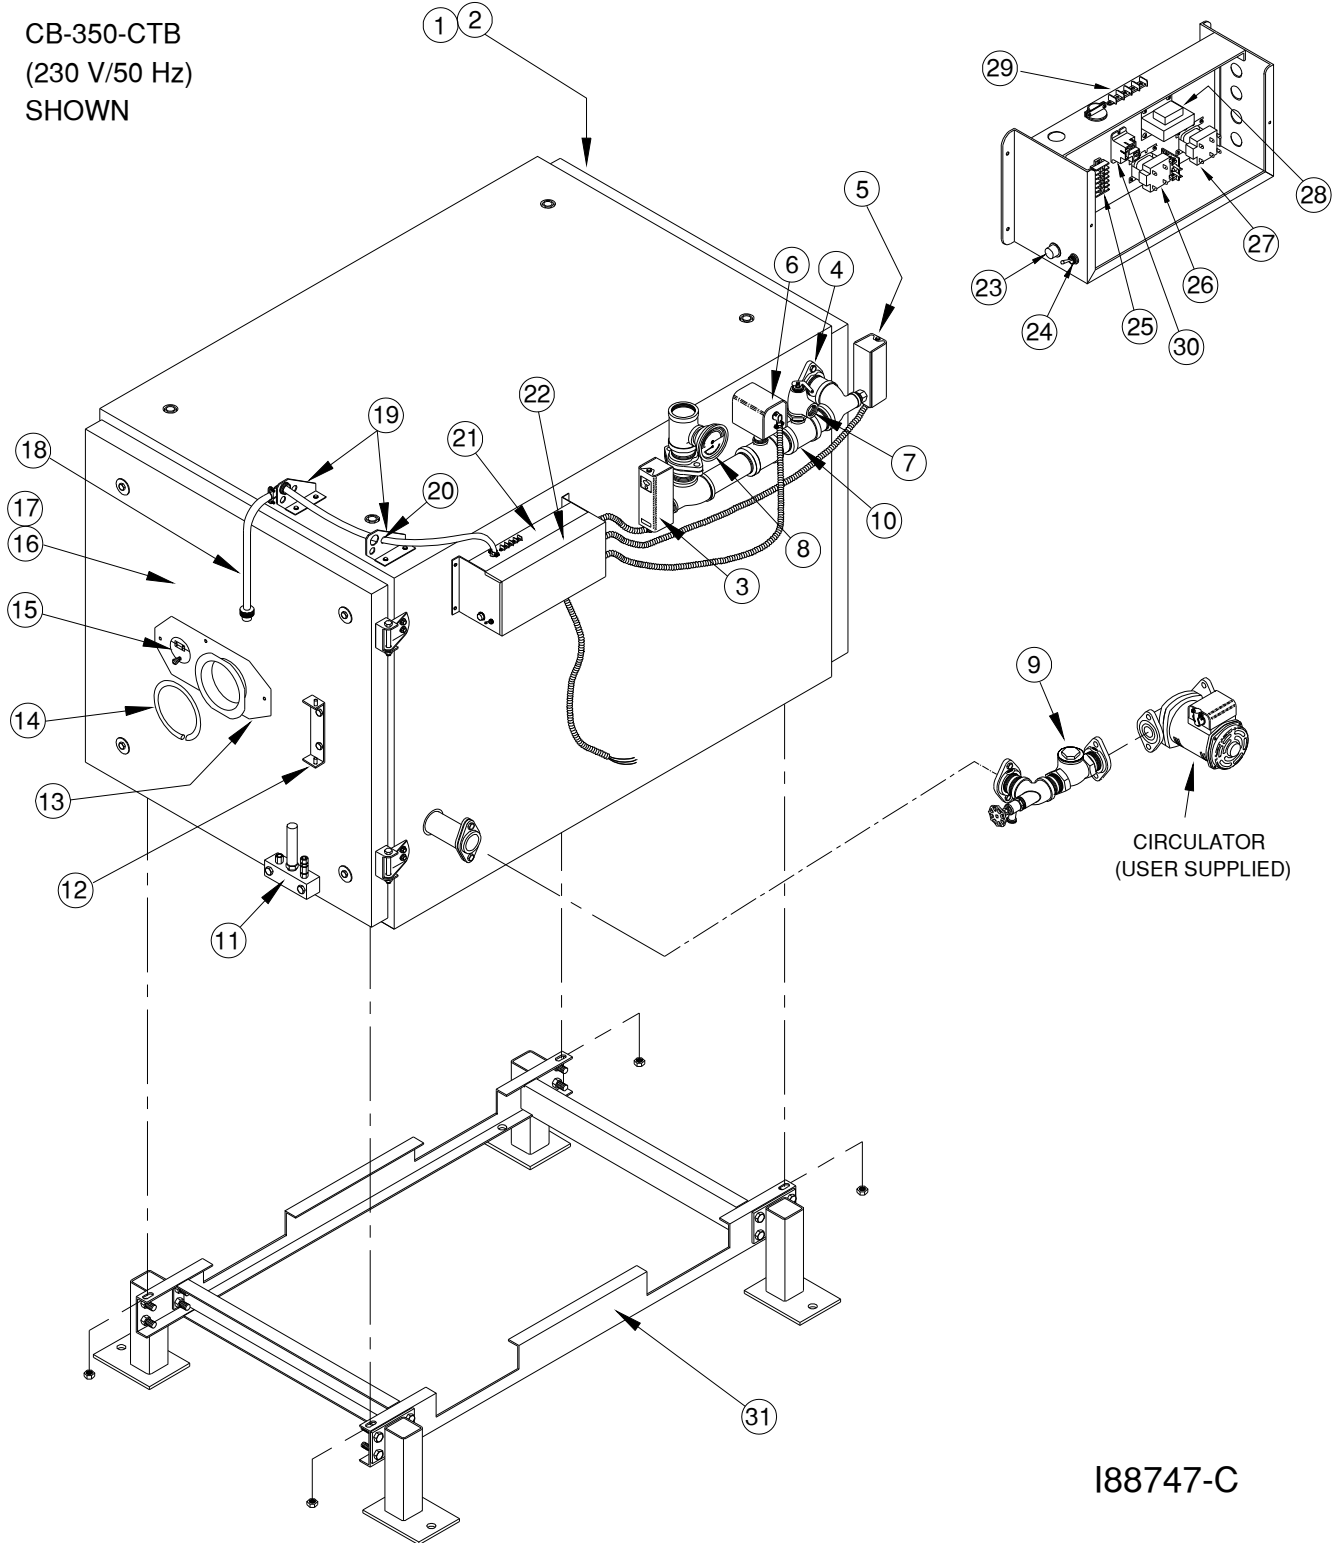

Figure 3A - Single Boiler Assembly Component Detail
1. Refer to Figure 3A to become familiar with the components required for CTB assembly.